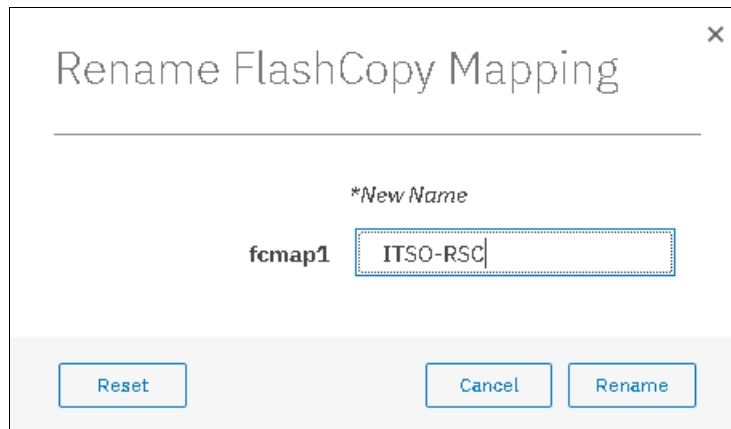

Figure 10-51 Rename Mapping
3. In the Rename FlashCopy Mapping window, enter the new name that you want to assign to the FlashCopy mapping and click **Rename**, as shown in Figure 10-51.